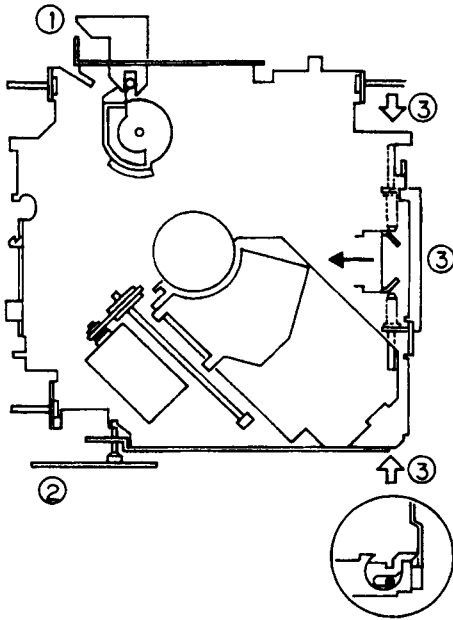

Fig.21
1. After clamping is complete, the tray motor continues to turn, and begins the procedure to release the CRG chassis locks. The locations of the locks are indicated by ① ② ③ in fig. 21. Locks ① ② ③ are released almost simultaneously.